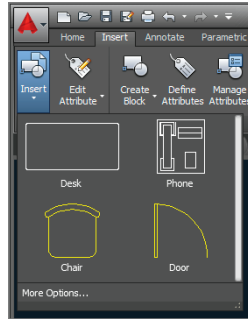

FIGURE 7.9 Selecting the Chair block definition in the Insert dialog box
4. Click the Insert tool on the Block panel on the ribbon's Home tab. This opens the block gallery, which is a new feature in AutoCAD 2015. Select the chair icon to insert this block (see Figure 7.9).